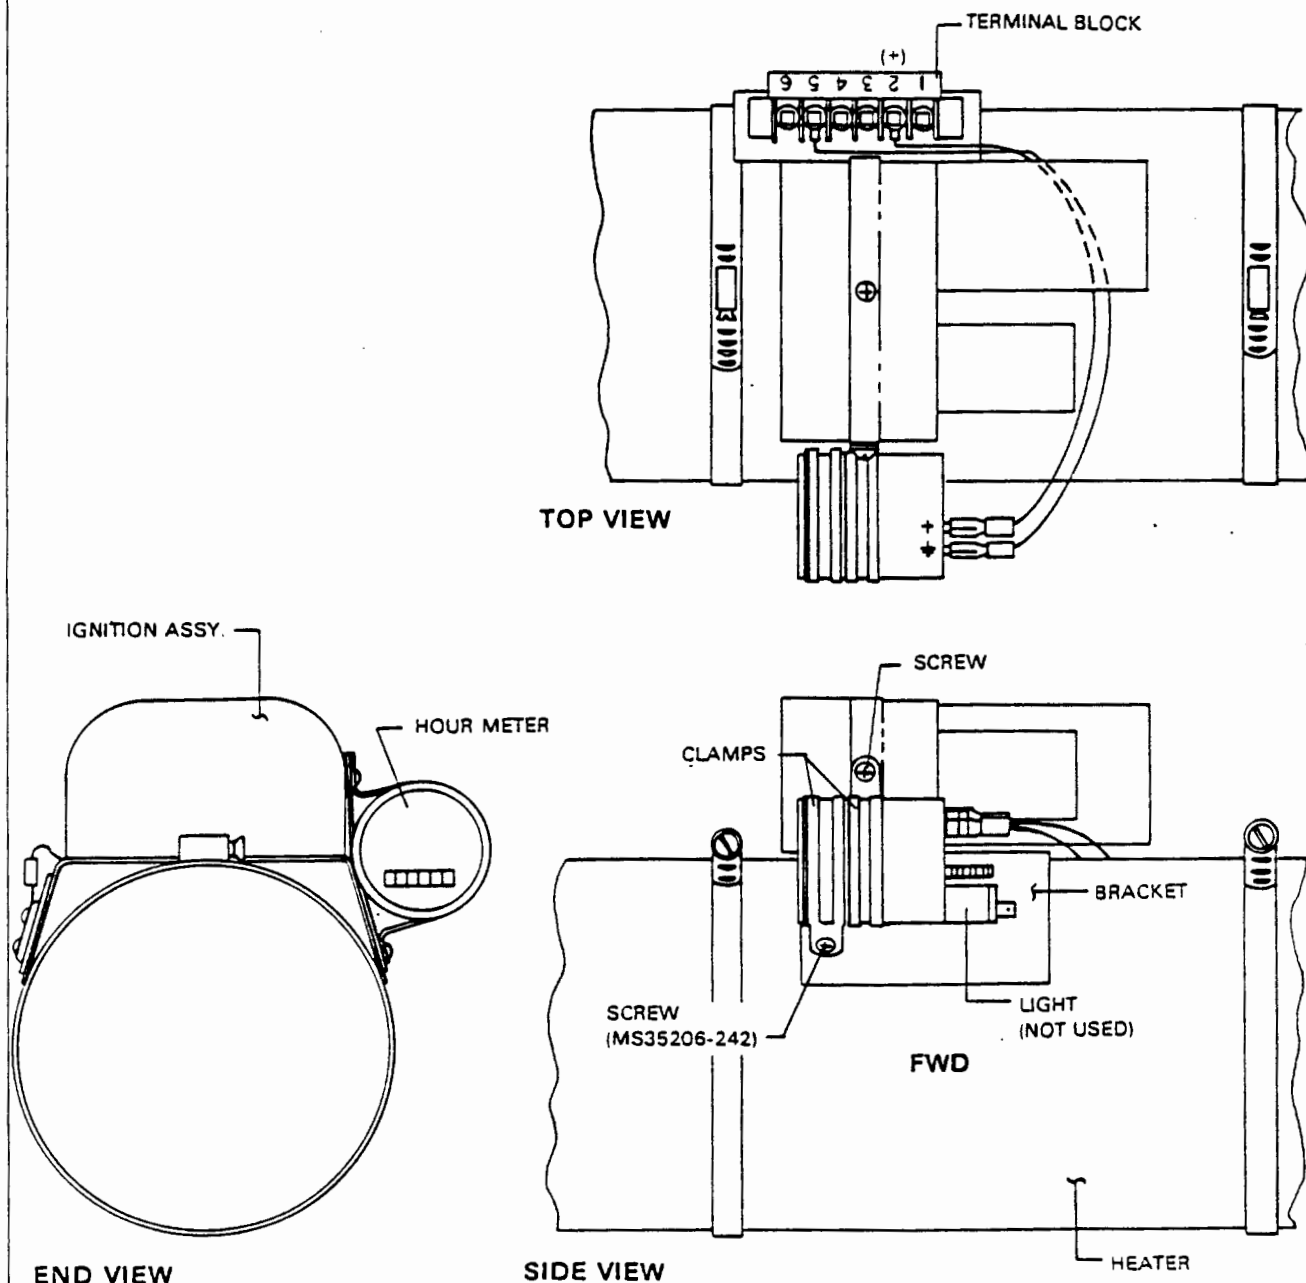

Figure 21-23. Heater Hourmeter Installation
1. Position clamps on hourmeter as indicated in Figure 21-23.